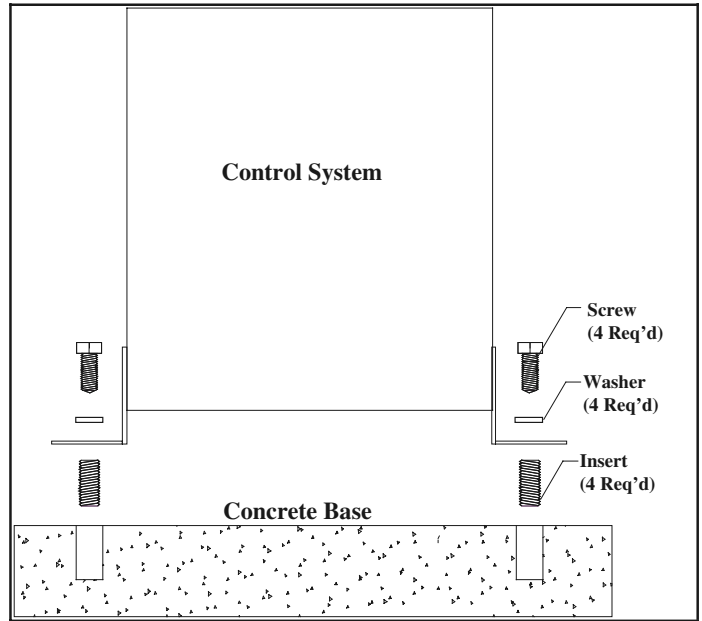

Figure 1: Concrete mount
7. Screw the system down and secure tightly (see Figure 1).